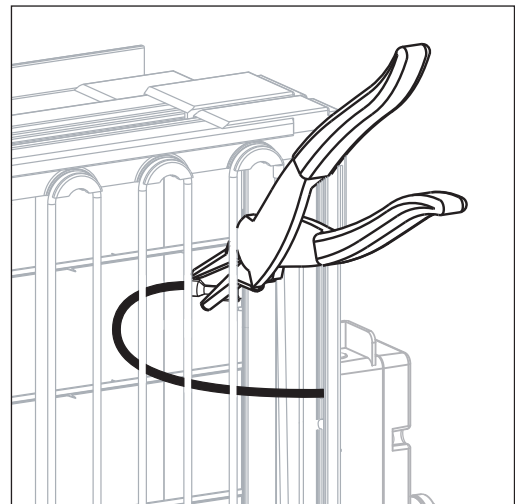

Fig. 12
- 5: Crimp the new  $\frac{1}{4}$ " quick disconnect terminal onto the red replacement power supply wire and connect to the ionization array (Fig. 12). This may require the use of needle-nose pliers.